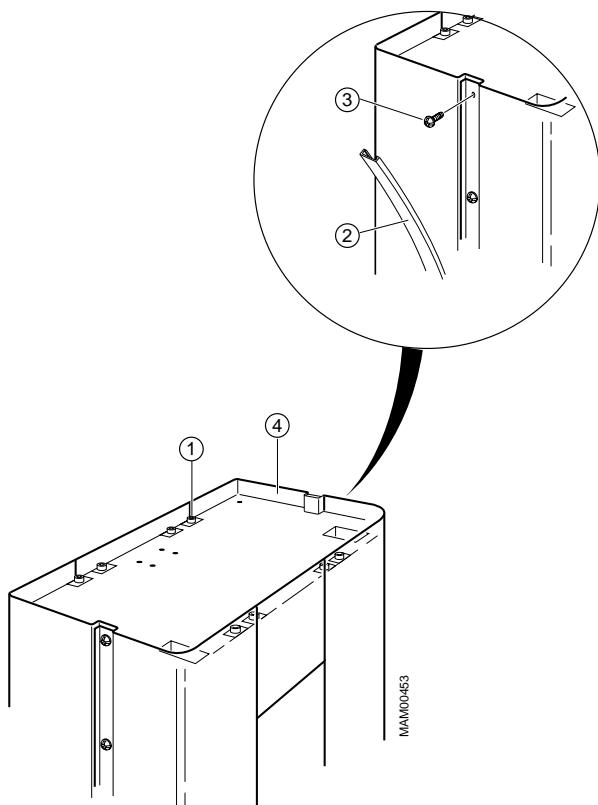

Fig. 2 Removal of right side cover
▷ **Stand, I 9** on CPU board D801, see Wiring diagram, (Stand). To have access to CPU board D801, the right side cover (or the complete back cover) should be removed. Loosen the screw (pos. 1 / Fig. 2) at the top of the stand. Pry loose the plastic strip (pos. 2 / Fig. 2), using a screwdriver or similar tool. Loosen the screws (pos. 3 / Fig. 2) now accessible and remove the cover (pos. 4 / Fig. 2).